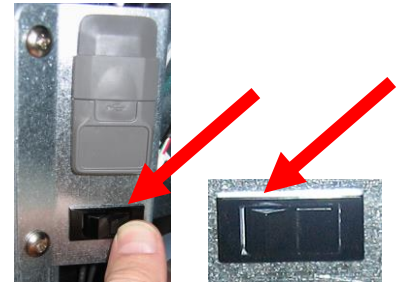

Figure 15
15. After installing the controller and power cycling for 60 seconds using the master power switch (see Figure 15) **wait 4 (four) minutes before proceeding to the step.**